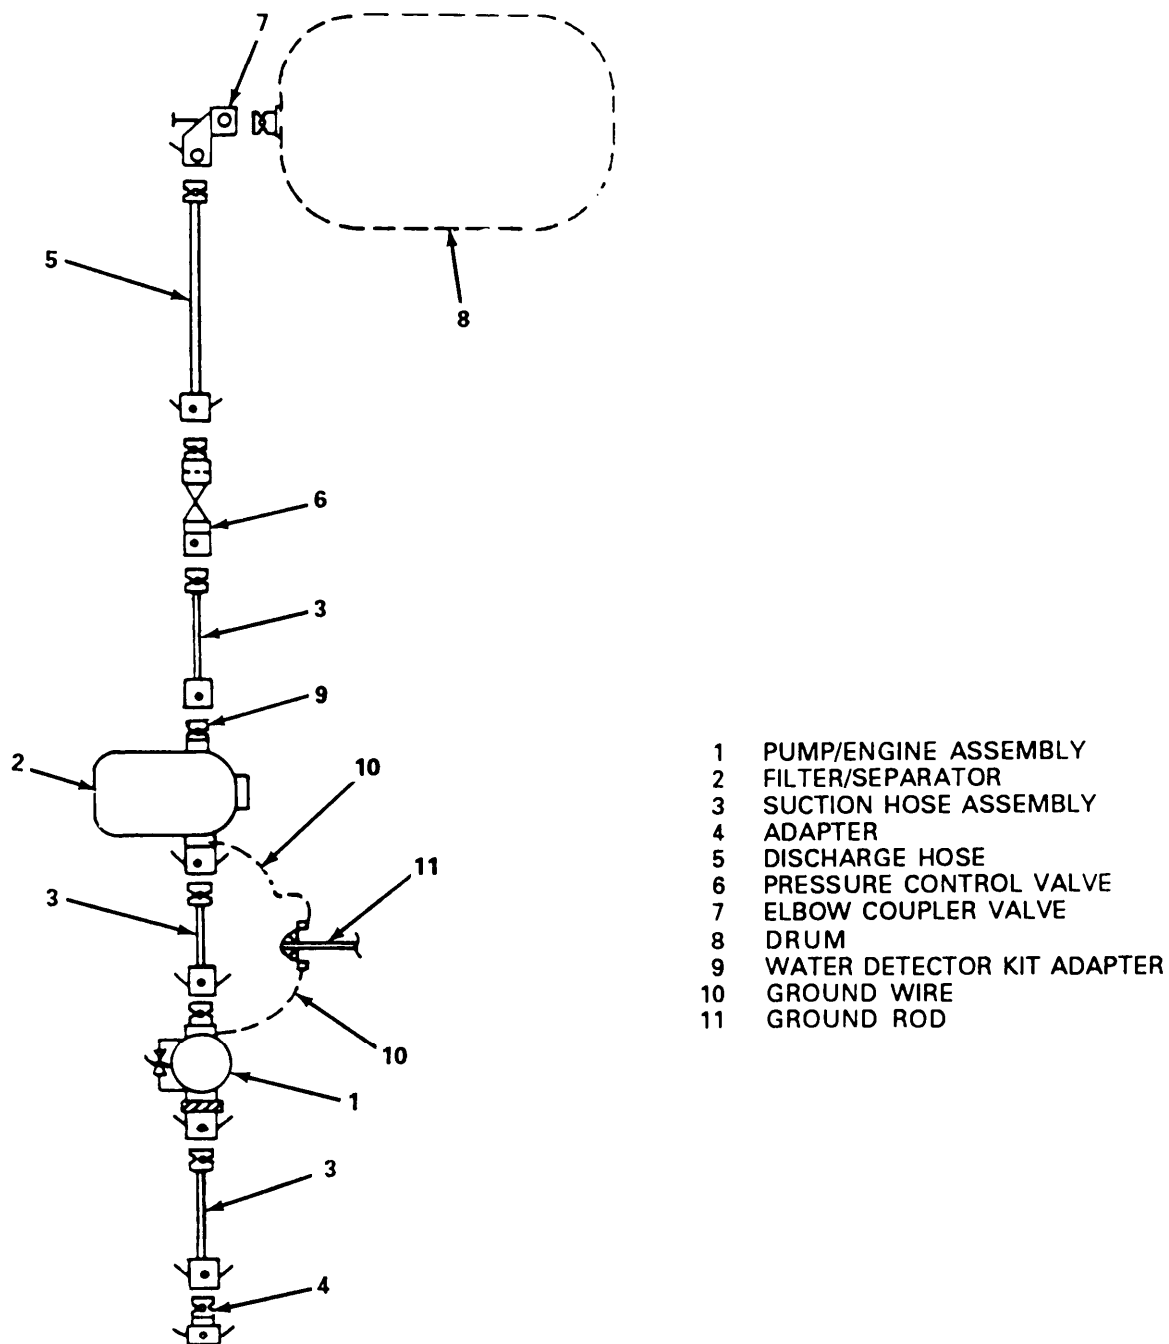

Figure 2-5. FARE Piping Diagram for Filling Operation.
- (2) When refueling operations are completed, stop the engine in accordance with TM 9-2805-257-14. Hang nozzle and gravity-fill adapter on ground rod hangers. Do not lay nozzle or adapter on the ground.
- (3) Drain water from filter/separator. Leave vent open during shutdown unless possibility of contamination exists.
- (4) Perform necessary After (A) PMCS (paragraph 2-5).
d. Filling a 500-Gallon Collapsible Drum. The piping diagram (figure 2-5) shows the FARE pumping fuel from an alternate fuel source to a 500-gallon (1892.5 liter) collapsible drum. Set up as shown, the FARE requires a minimum of 2 men to operate, one man to act as a pump tender and a second man to dispense fuel into containers. Setting up the equipment for a filling operation is essentially the same as for a fueling operation, except for the specific selection of components for its configuration. Proceed as follows:
- (1) Position pump/engine (1, figure 2-5) and filter/separator (2) assembly, suction hoses (3) and adapter (4). Remove dust caps and plugs, ensure gasket is in place and connect components.